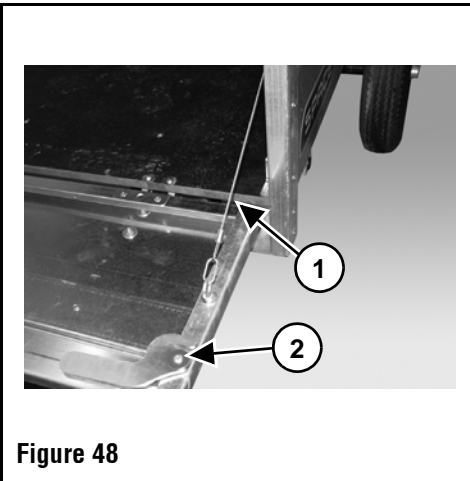

Figure 47
9. Check both canopy struts (Item 1) and canopy support rod (Item 2) for damage and missing hardware. **(Figure 47)**